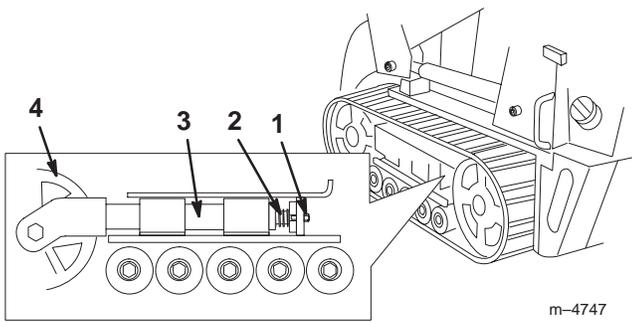

Figure 30
- Remove the locking bolt and nut (Fig. 30).
- Using a 1/2 in. drive socket, release the drive tension by turning the tensioning screw clockwise (Fig. 30 and 31).